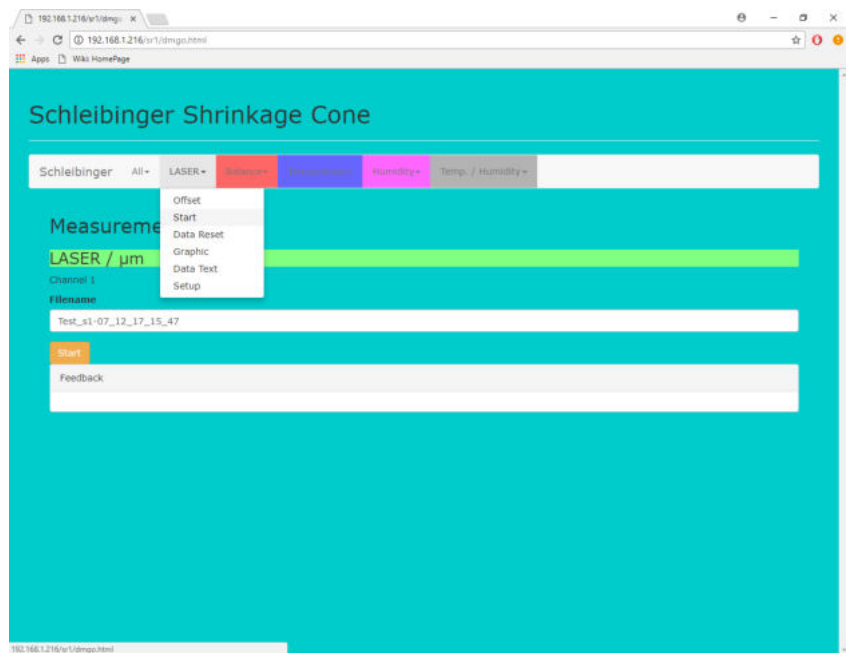

Figure 21: Measurement start
- Select **Start** for measurement start. Enter the filename (optional) and click on **Start** for setting the time to zero (Fig. 21).